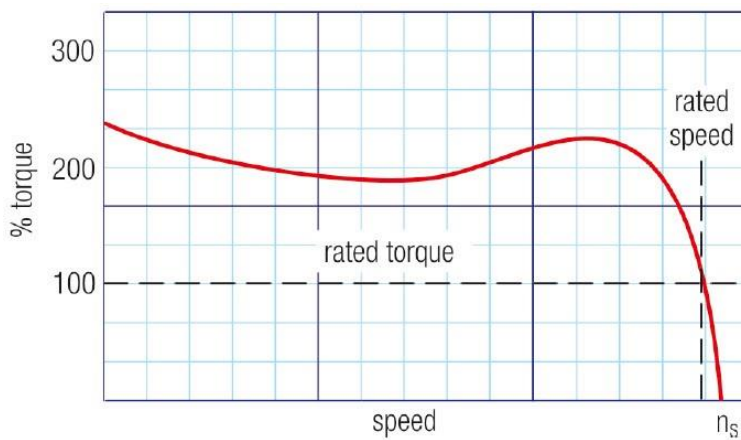

Figure 1
1. Inspect the graph in figure 1 and determine